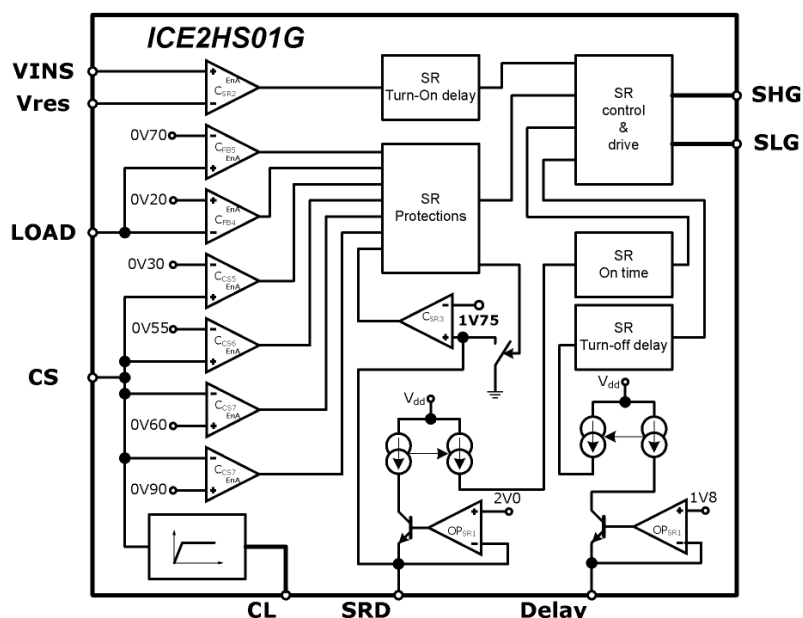

Figure 12 Synchronous rectification control block diagram
Synchronous Rectification (SR) in a half-bridge LLC resonant converter is the key to achieve very high efficiency, and this is the major benefits from the patent pending method integrated in ICE2HS01G. The control of Synchronous Rectification in ICE2HS01G have four main parts: On time control, turn-on delay, turn-off delay and protections, with the block diagram shown in Figure 12.